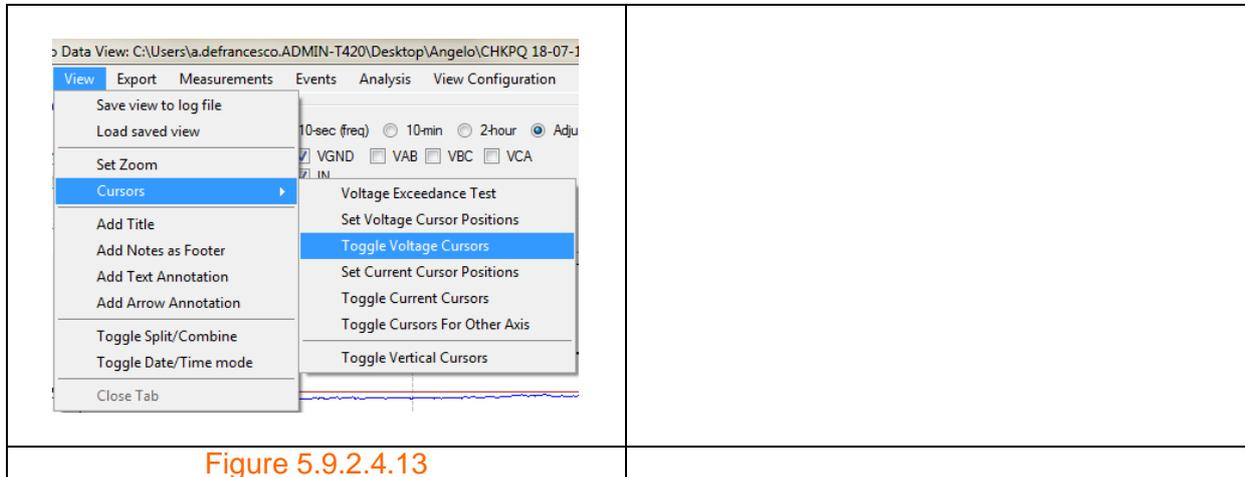

Figure 5.9.2.4.13
Step 1: Click the 'Toggle Voltage Cursors' button as shown in figure 5.9.2.4.13. The voltage cursors disappear.